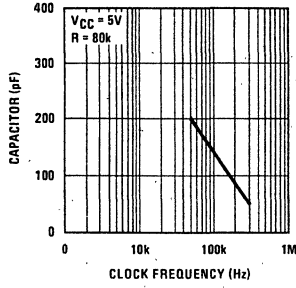

FIGURE 1. Capacitor vs Clock Frequency
*See Figures 1, 2 and 3 for values